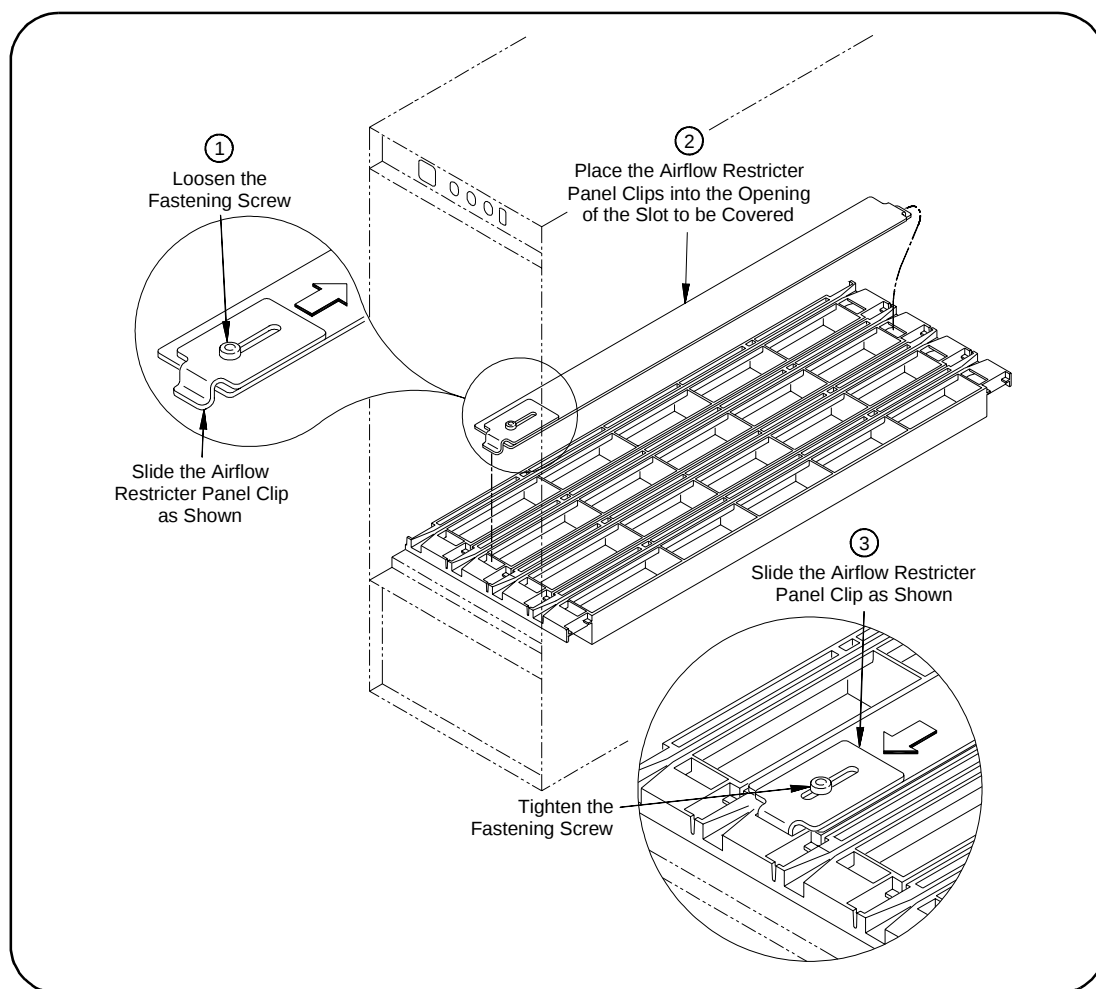

Figure 2-23. Installing the Airflow Restrictor
- 3 Follow the steps in Figure 2-23 to install the Airflow Restricter.